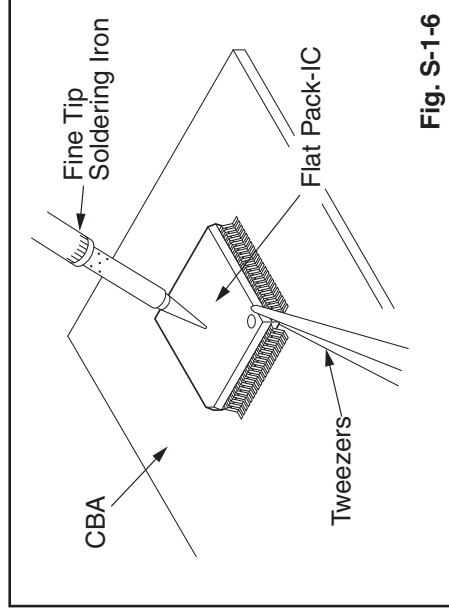

Fig. S-1-6
3. Bottom of the flat pack-IC is fixed with glue to the CBA; when removing entire flat pack-IC, first apply soldering iron to center of the flat pack-IC and heat up. Then remove (glue will be melted). (Fig. S-1-6)
4. Release the flat pack-IC from the CBA using tweezers. (Fig. S-1-6)
4. Bottom of the flat pack-IC is fixed with glue to the CBA; when removing entire flat pack-IC, first apply soldering iron to center of the flat pack-IC and heat up. Then remove (glue will be melted). (Fig. S-1-6)
5. Release the flat pack-IC from the CBA using tweezers. (Fig. S-1-6)